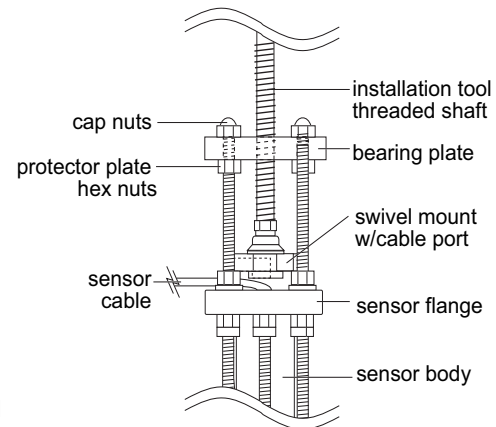

Fig. 11
- G.** Position the installation tool bearing plate by rotating it so that it is approximately 40 mm (1.6 in.) from the swivel mount. Mount the installation tool by placing the threaded rods through the holes in the tool's bearing plate, resting the bearing plate on top of the protector plate hex nuts. Make sure the swivel mount's ears are mounted **between** the threaded rods (not over the rods). Install the bearing plate cap nuts. Tighten the bearing plate cap nuts to secure the installation tool in place. (Fig. 11)